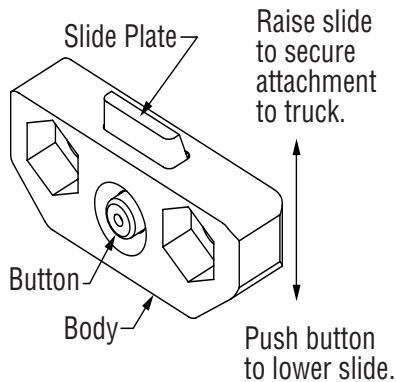

Figure 5-1, Quick Change Hook
3. Slightly raise the truck carriage to allow the removal of the bottom mounting hooks. If the attachment is equipped with Quick Change Hooks, simply press the slide plate release button and drop the slide plate down. (Figure 5-1)